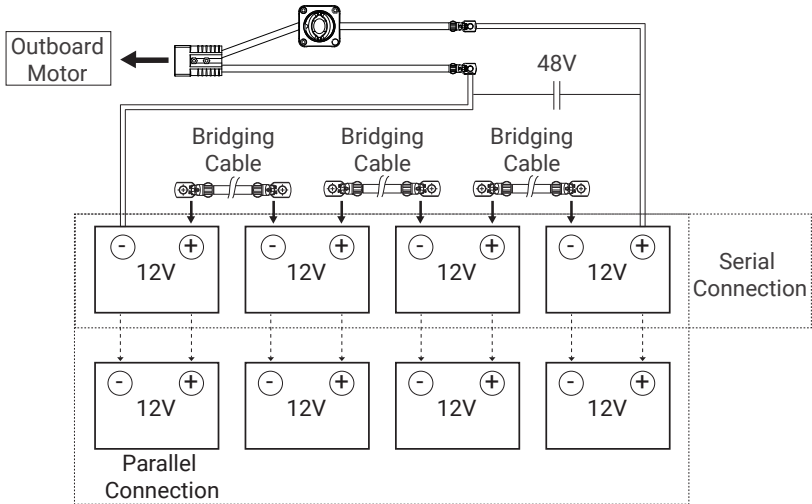

Figure 4-3
When connecting four 12V batteries in series to make a 48V battery set to supply power for NAVY Evo, use bridging cables to connect batteries in series (Figure 4-3). Make sure to connect the main switch cable to battery positive terminal and the other cable to battery negative terminal.
- ⚠** Never reverse the polarity. Please pay more attention when connecting batteries in series and/or in parallel configuration. Always double check by referring to Figure 4-3.